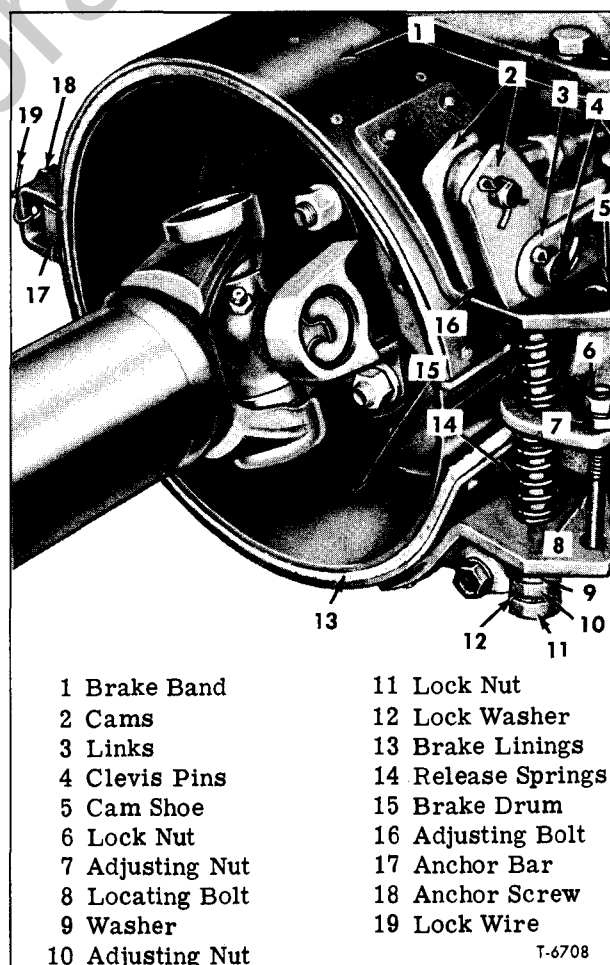

Figure 1—External Contracting Band Parking Brake
External contracting band type parking brake is mounted at rear of transmission (fig. 1).
BAND TYPE ADJUSTMENT (Fig. 1)
BRAKE BAND REMOVAL (Fig. 1)
5. Slide band and lining assembly straight to rear off brake drum and anchor bar (fig. 1), removing band and lining assembly off over propeller shaft.
BRAKE BAND INSTALLATION (Fig. 1)